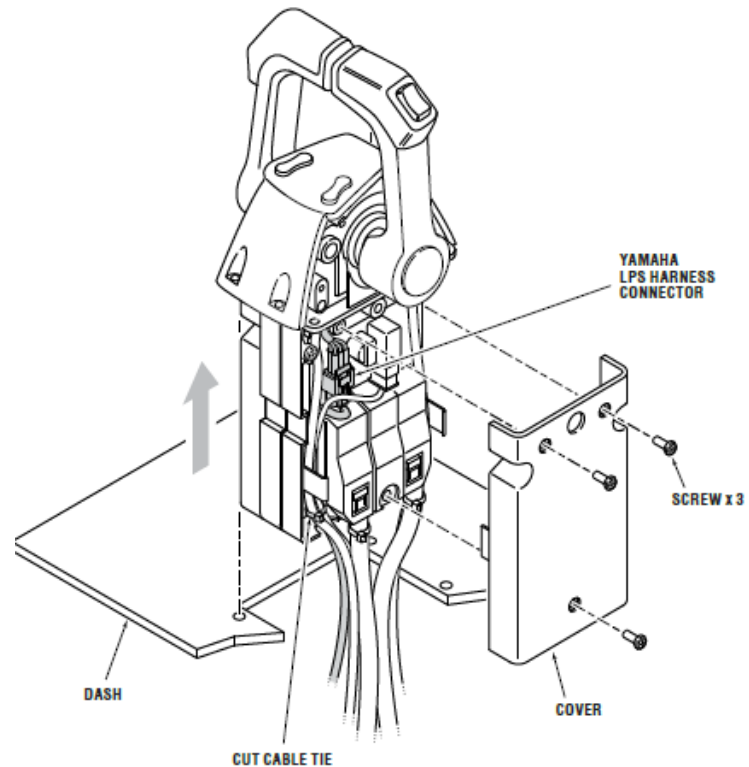

Figure 7-2. Cover removal and LPS harness identification.
4. Remove the control head from the dash far enough to expose the cover mounting screws. (Refer to figure 7-2. Port side is shown.) Both sides will need to be removed, but it is recommended that you proceed with one side at a time. **Be sure to support the control head so that the harnesses are not under strain.**
5. Cut the cable tie securing the harnesses to the binnacle chassis. (Refer to figure 7-2.)
6. Disconnect the Yamaha LPS harness. The port harness will be identified with a 'P' and the starboard harness will be identified with an 'S'. (Refer to figure 7-2.) If this is a triple, do not connect to the harnesses labeled 'PC' or 'SC'.